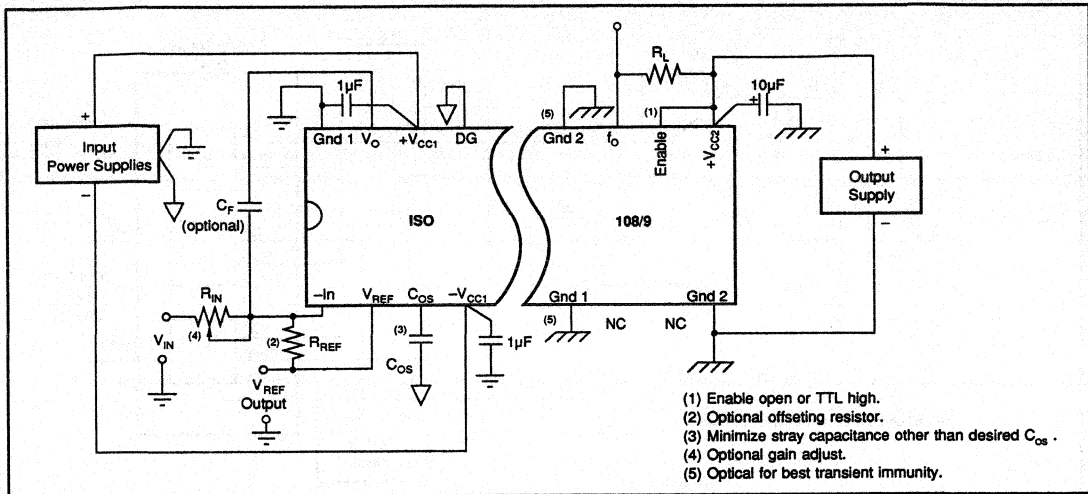

FIGURE 2. ISO108/109 Connection Diagram.
External connections to the ISO108 and ISO109 are made as shown in Figure 2. The transfer function of the VFC is  $f_O$  [MHz] =  $(200\text{pF})(40\text{k})/(C_{OS} + 50\text{pF})(R_{IN})$ . For a 10V full scale input,  $R_{IN} = 40\text{k}\Omega$  for optimum performance; adjustment of  $C_{OS}$  then determines full-scale frequency as shown in performance curve Output Pulse Width and Full-Scale Frequency vs External One-Shot Capacitance. The fullscale frequency is typically 3MHz with  $C_{OS} = 0\text{pF}$ .
Figure 2, Note (2) shows a use of the reference voltage output to offset the input of the ISOVFC so that bipolar inputs can be accepted. Buried zener reference circuitry is used for low noise and excellent temperature drift. Output current is specified to 10mA and current-limited to approximately 20mA. Excessive or variable loads on  $V_{REF}$  can decrease frequency stability due to internal heating. Low level input signals should be amplified before the ISOVFC.